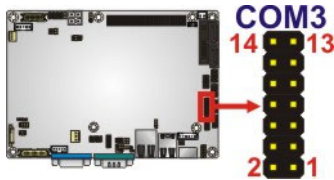

Figure 3-21: Serial Port Connector Location
- CN Location:** See **Figure 3-21**